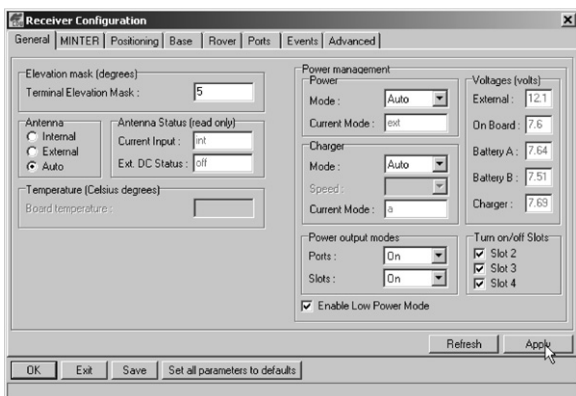

Figure 2-17. Voltages Information
7. View the Voltages information (Figure 2-17).
1. Click on **Configuration->Receiver** and view the battery voltages on the Receiver Configuration screen (Figure 2-17 on page 2-16).